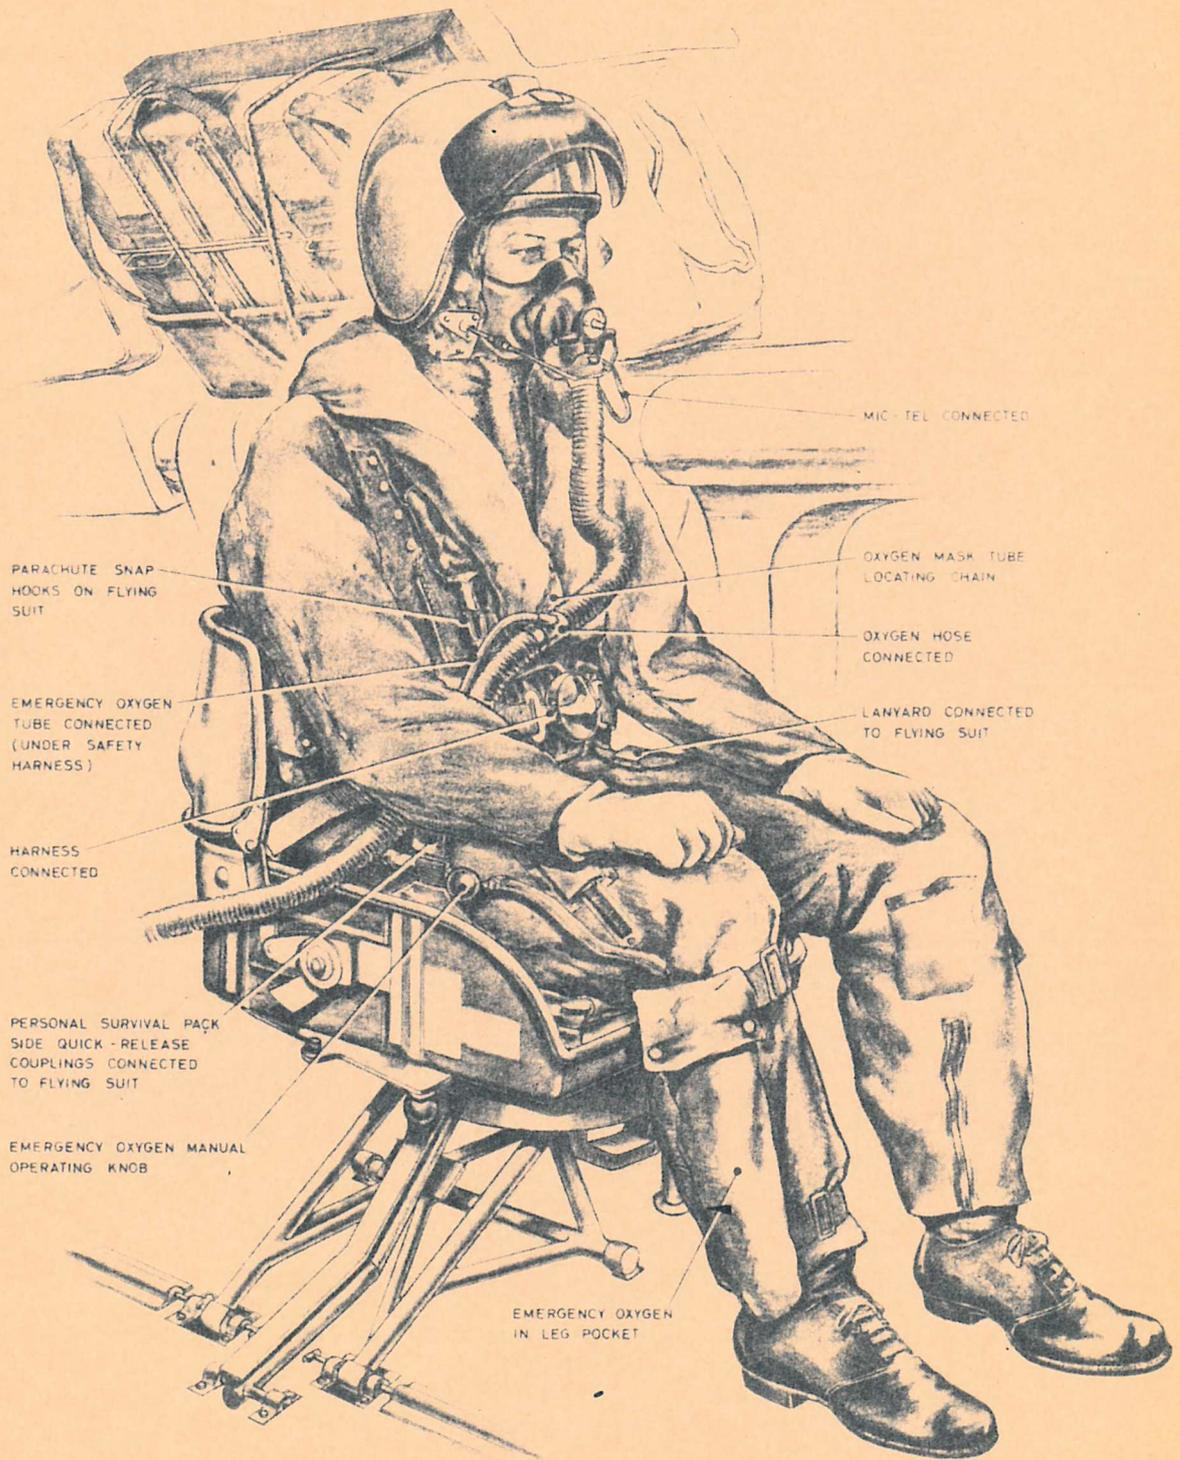

Fig. 13. The folding seat occupied
32. Before and during take-off the navigator is to occupy the fixed seat but before doing so he must be wearing a flying helmet, oxygen mask and protective helmet. The procedure is as follows (fig. 13):-